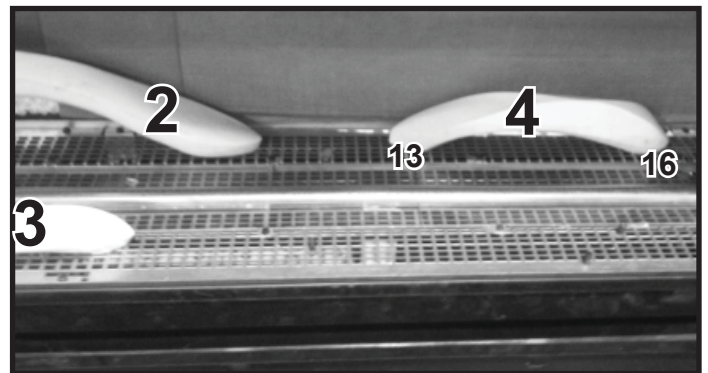

Figure 9. (SRV2310-754)
10. **(SRV2310-754):** Install Log #4 onto the shoulder screws by aligning the log placement holes with shoulder screws #13 and #16. See Figure 9.